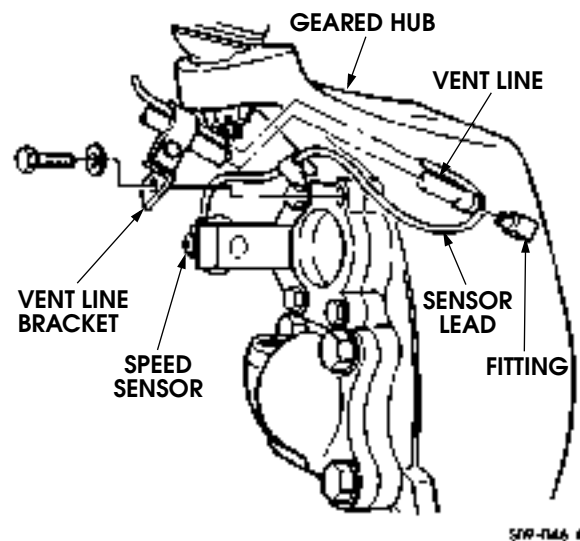

Figure 9-9: Vent Line Connection Replacement
2. Remove bolt and washer securing vent line/speed sensor lead bracket to geared hub (Figure 9-9).
6. Connect vent line to fitting (Figure 9-9).